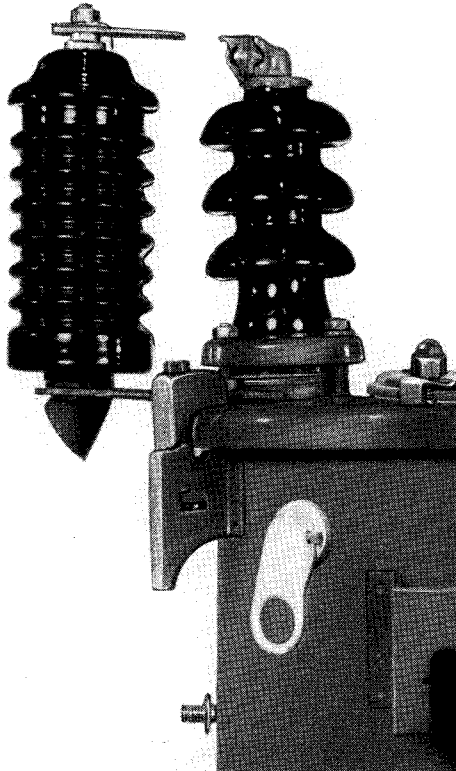

FIG. 1. Cover Mounted De-Ion Arrester.
**THE DE-ION ARRESTER** is a device which provides surge or lightning protection for electrical equipment. It differs from a plain gap in that it interrupts any power flow current within one-half cycle. It is designed to handle exceptionally high surge currents and will even discharge direct strokes of lightning successfully. Cover and wall mounted units are shown in Figs. 1 and 2, respectively.